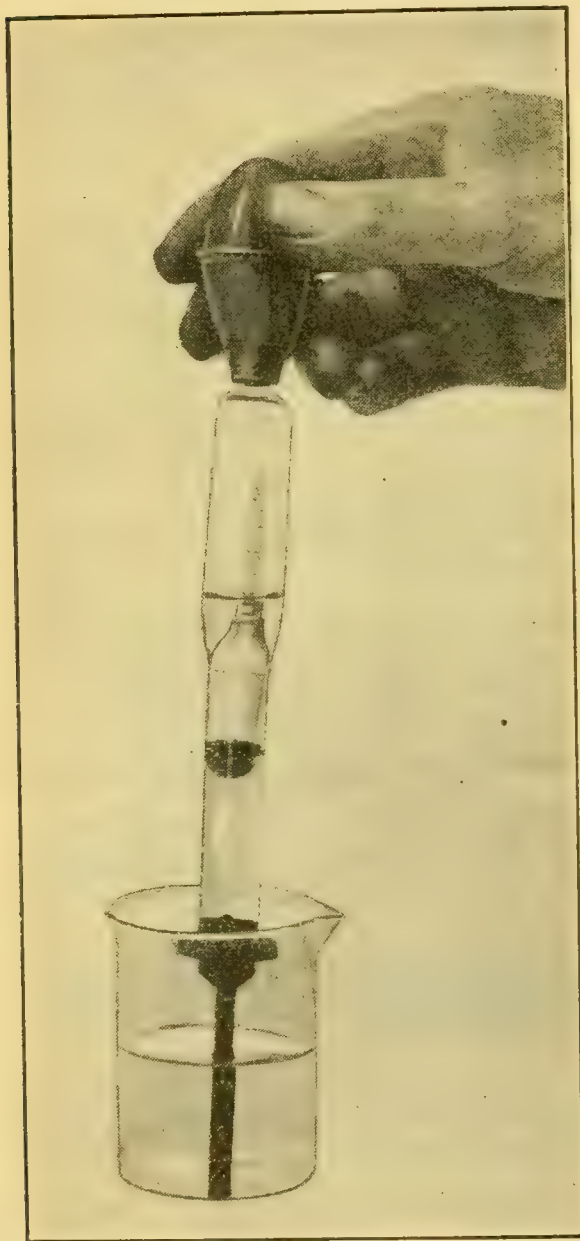

FIGURE 88.—A BATTERY TESTER.
58. Practical Uses of Hydrometers.—The bottle method, or a slight modification of it, is a very accurate way of determining the specific gravity of liquids. For practical purposes, however, the more rapid, but less accurate, hydrometer method is generally used. This instrument is important in the manufacture of acids, in the separation of the various oils obtained in the distillation of crude petroleum, and in many other industries. It finds frequent employment in the testing of the sulphuric acid solutions used in the lead storage batteries of automobiles (Figure 88). Since specific gravity is often an indication of purity, the hydrometer is a quick means of testing olive oil and many other oils. Milk inspectors use a special form, known as